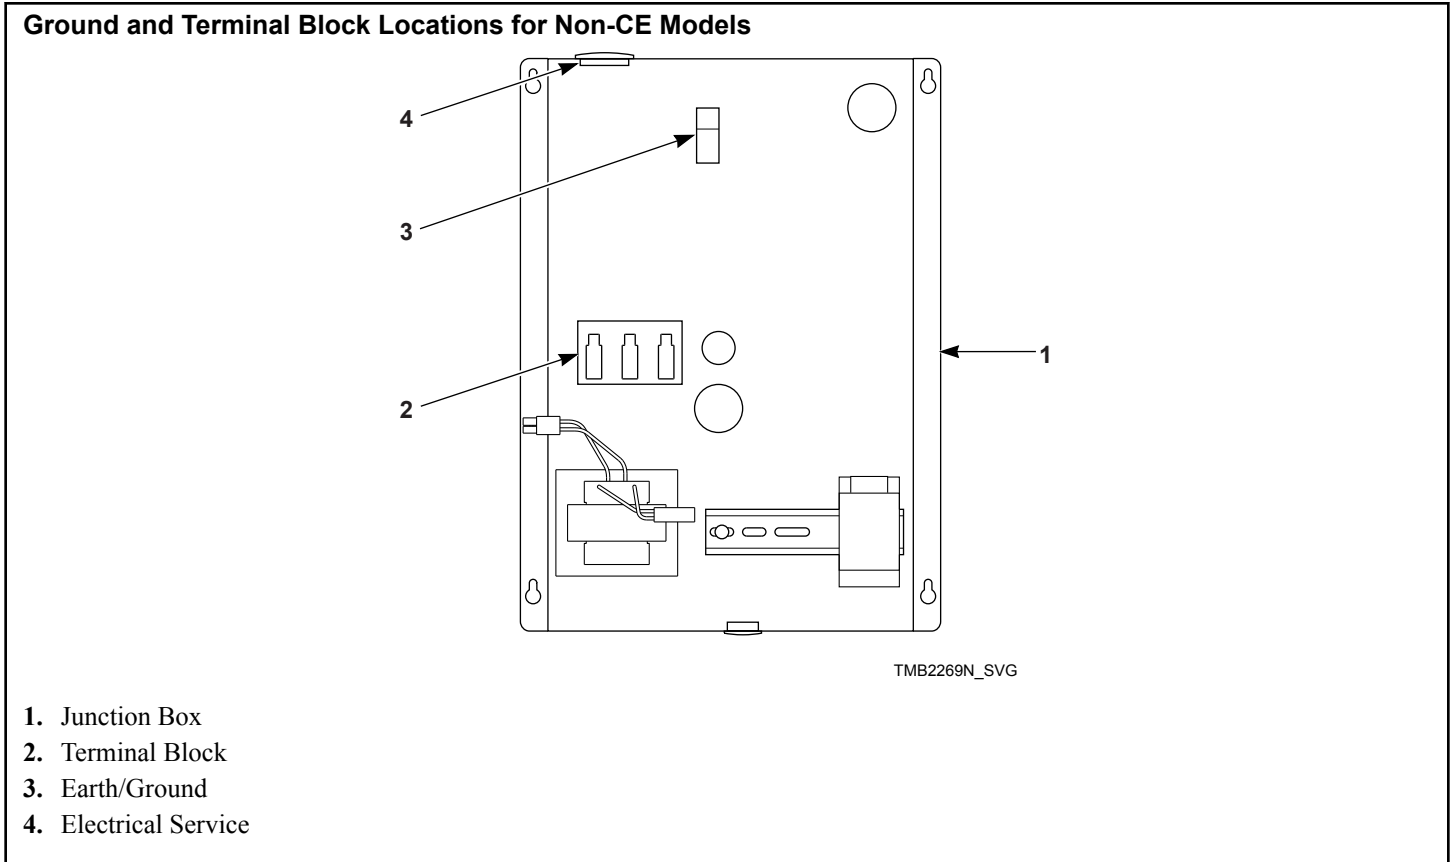
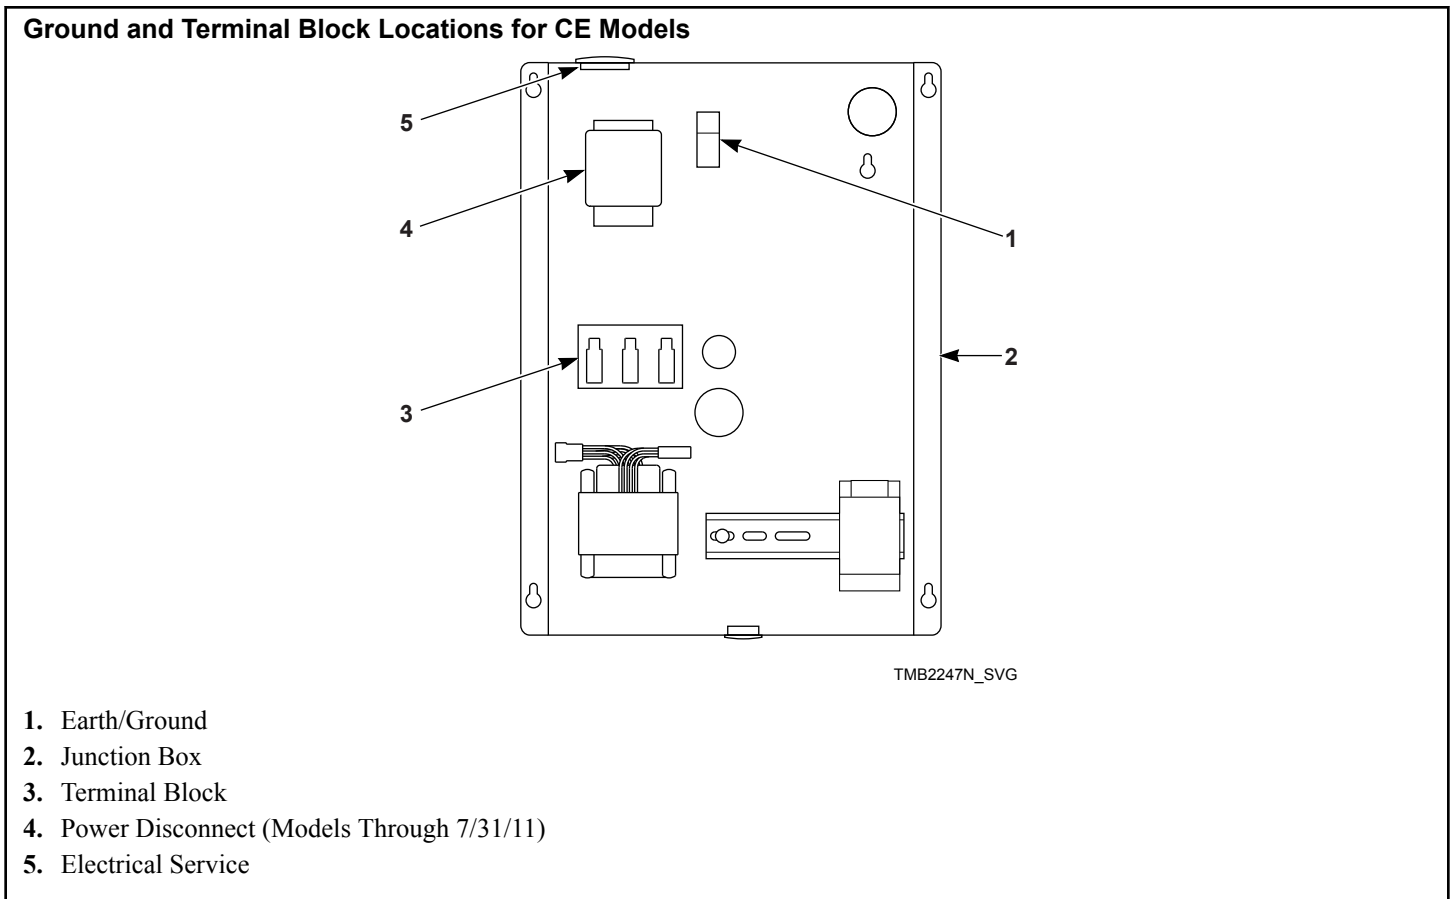

Figure 26
Figure 27
2. Connect the conduit-encased leads to the disconnect switch, or circuit breaker. Connect the wire leads to the appropriate labeled terminal on the terminal block. The ground wire must be connected to the ground connection as shown in *Figure 26* or *Figure 27*.